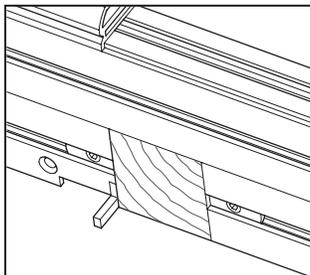
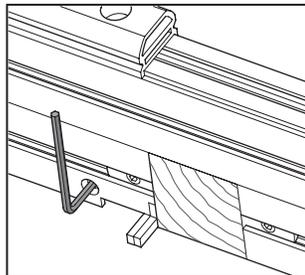

Figure 18a: Key setting for 1/8" (3mm) finger joints.
Figure 18b: Sliding key initial setting for 1/4" (6mm) and larger finger joints.
2. To make 1/8" (3mm) wide finger joints, remove the sliding key as shown in **Figure 18a**, using the 1/8" hex key provided. To make 1/4" (6mm) to 3/4" (20mm) wide finger joints, lock the sliding key against the fixed key as shown in **Figure 18b**.